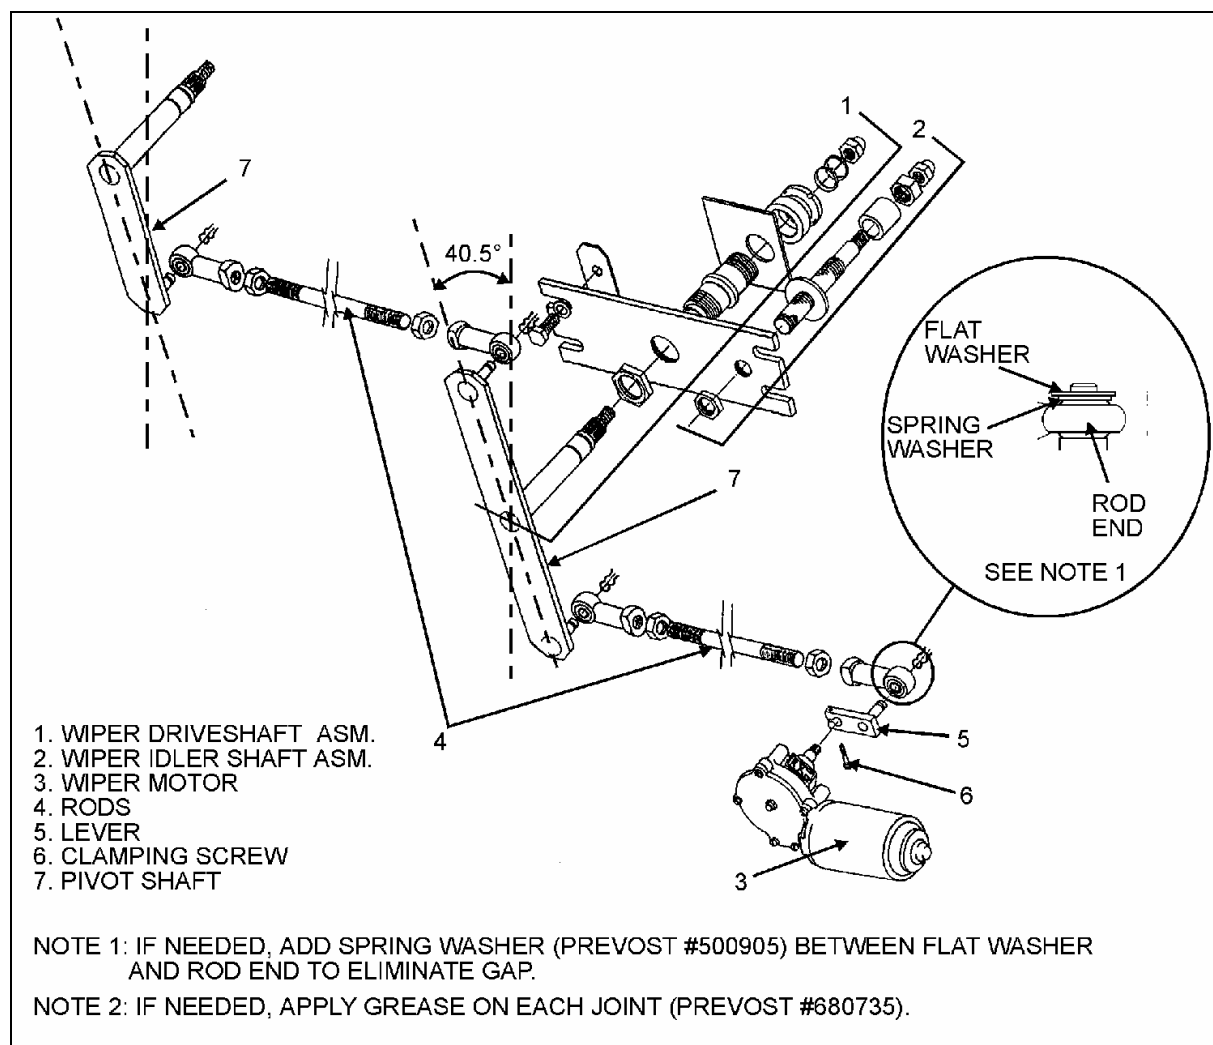

FIGURE 37: LOWER WINDSHIELD WIPER INSTALLATION
4. Adjust the rod located between right pivot shaft and motor to a 40.5° angle (Fig. 37). The motor lever must be on the same axis as the rod.
3. Loosen clamping screw retaining the lever at the end of the motor driving shaft (Fig. 37).